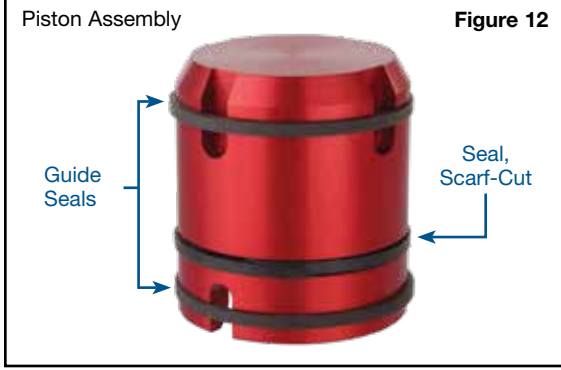

Figure 12
- d. Install the two solid guide seals in grooves at each end of the piston (**Figure 12**).
- e. Install the scarf-cut seal in the middle position groove (**Figure 12**).